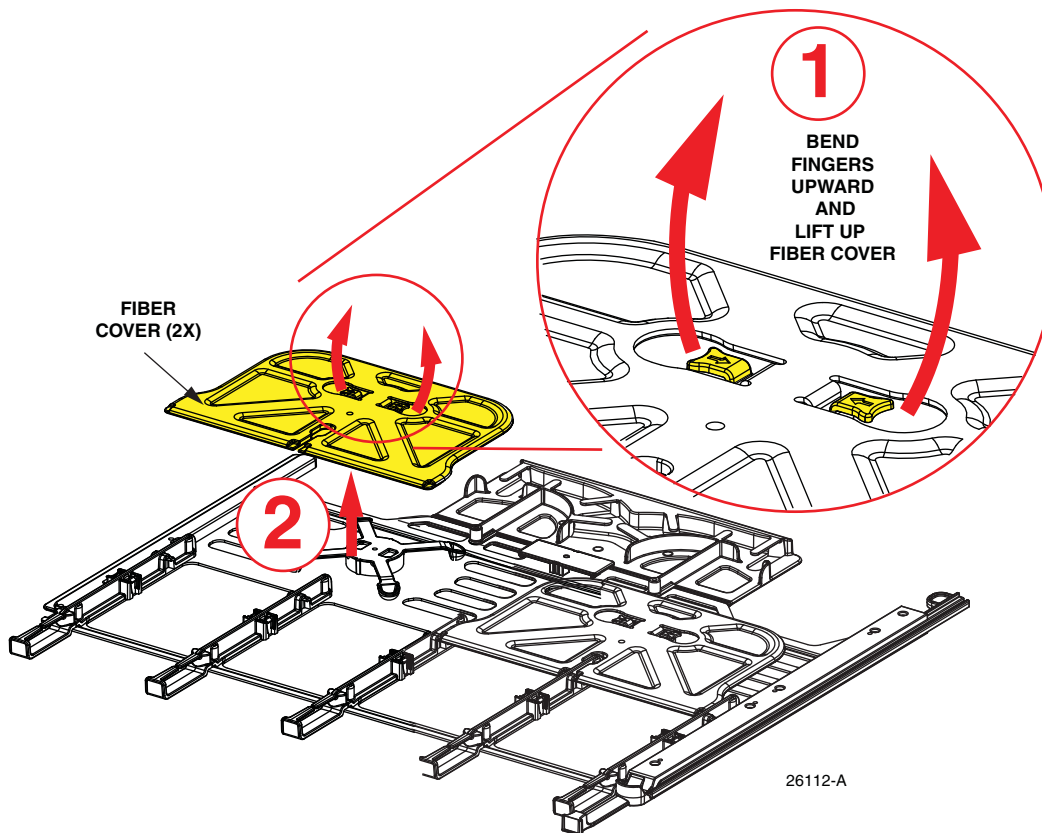

Figure 21. Removing Fiber Covers
1. Squeeze the fingers at the center of the covers per the arrows shown in Figure 21.